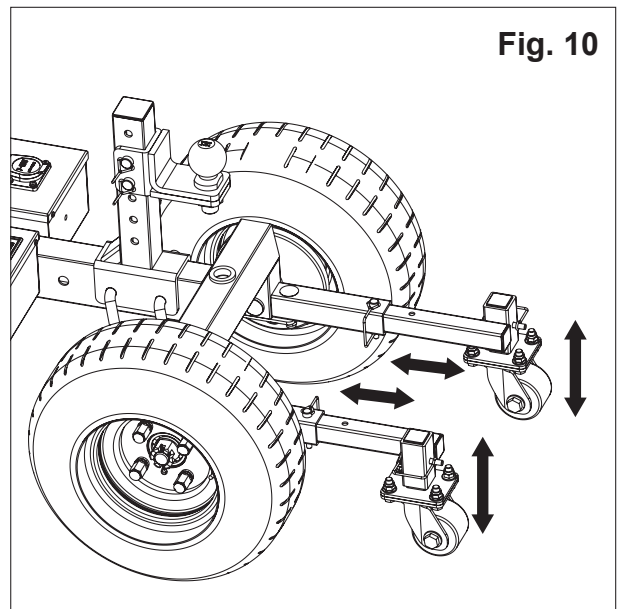

Fig. 10
- The rear support wheel assembly is intended to provide support and increased stability during towing., and depending on ground conditions, the position can be adjusted up and down as well as forward and backwards relative to the main wheels. **DO NOT** operate trailer dolly without the support wheel assembly properly attached and secured in place. (See Fig.10)